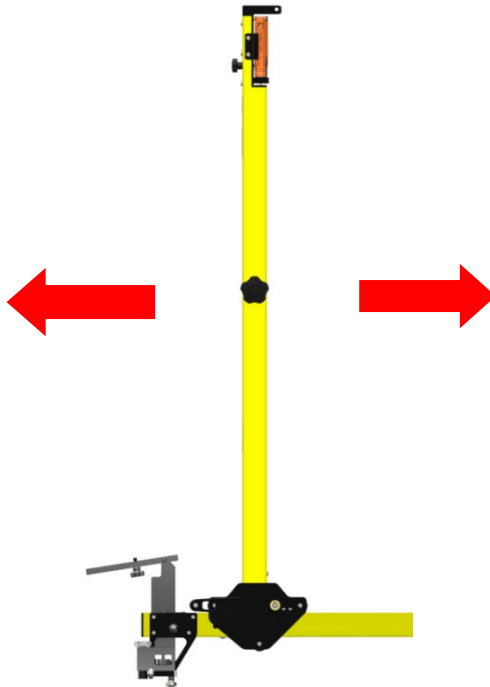

Figure 7
3. The vertical beam can be moved from side to side by turning the stagger adjustment wheel located in the centre of the vertical beam (shown in figure 7). When the over-head cable is in line with the laser the amount of cable stagger can be read from the scale on the upper side of the horizontal beam.